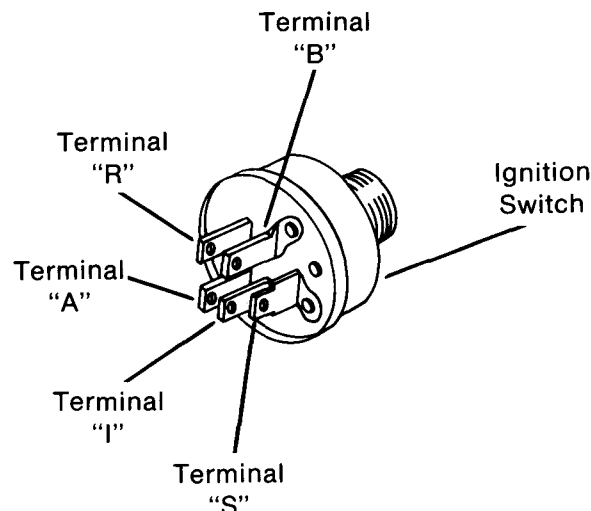

FIG. 44
- K. Using continuity tester or ohmmeter, attach one probe to terminal "B" on ignition switch (Fig. 44) and touch all other terminals with other probe. Continuity should not exist between any terminal. If continuity exists between any terminal, switch is defective, replace switch.